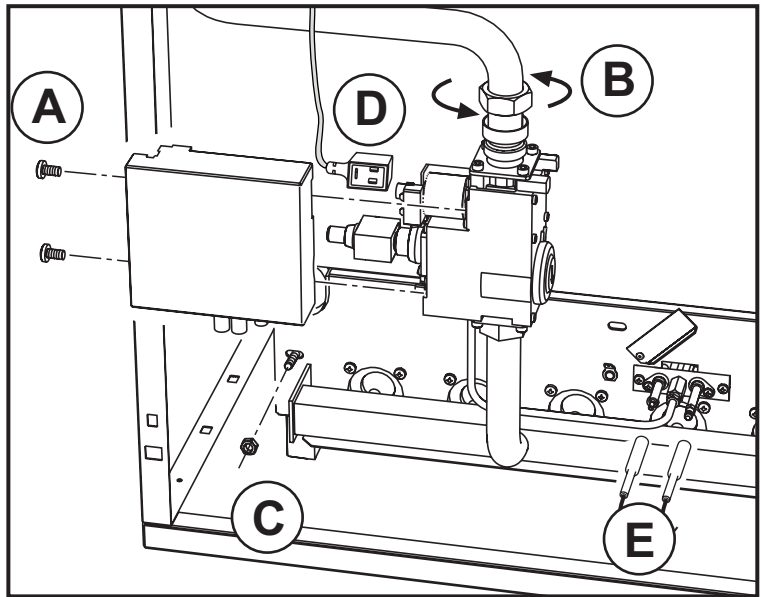
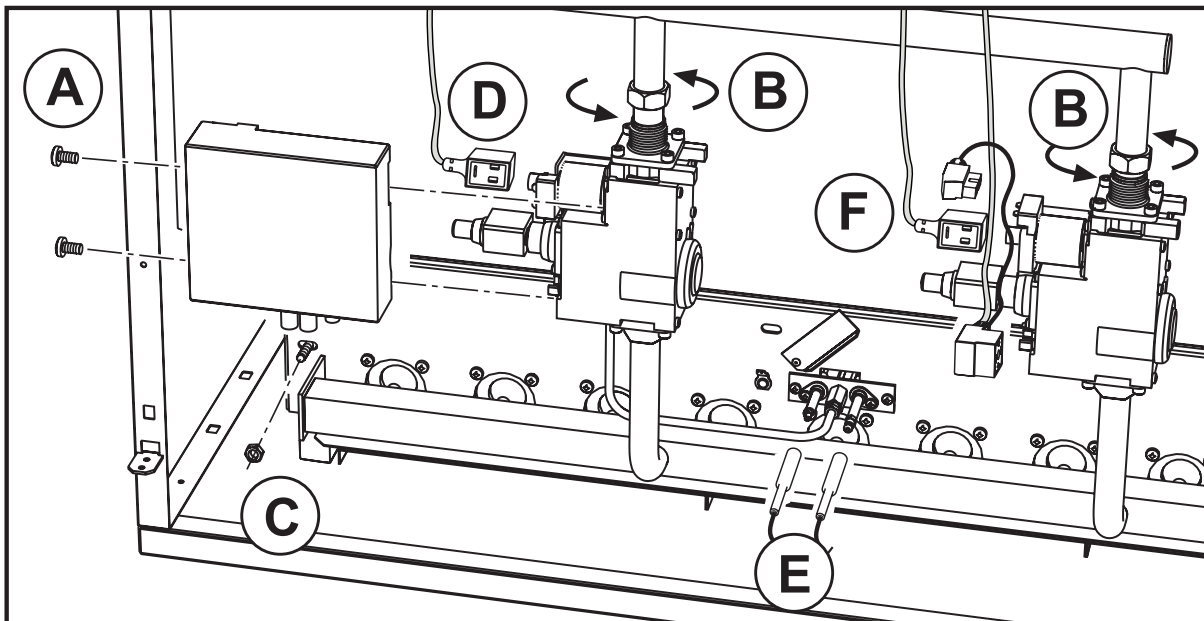

fig. 9 - Models 67 - 77 - 87
fig. 10 - Models 97-107
- Undo the two screws (A) securing the electronic flame controller to the gas valve (fig. 9 and 10) and remove the valve. Remove the connector (D - fig. 9 and 10) by undoing the screw securing kit.
- For GASTER N 97 and 107 AW models which have 2 gas valves, also undo the 2 screws securing 2 electrical connectors (F) that feed the second valve and remove them from the valve.
- Undo the nut securing the gas supply pipe ahead of the gas valve (fig. 9). For models 97 and 107, undo the 2 nuts (fig. 10)
- Undo the two nuts securing the combustion chamber door to the cast iron elements of the boiler (fig. 9 and 10)